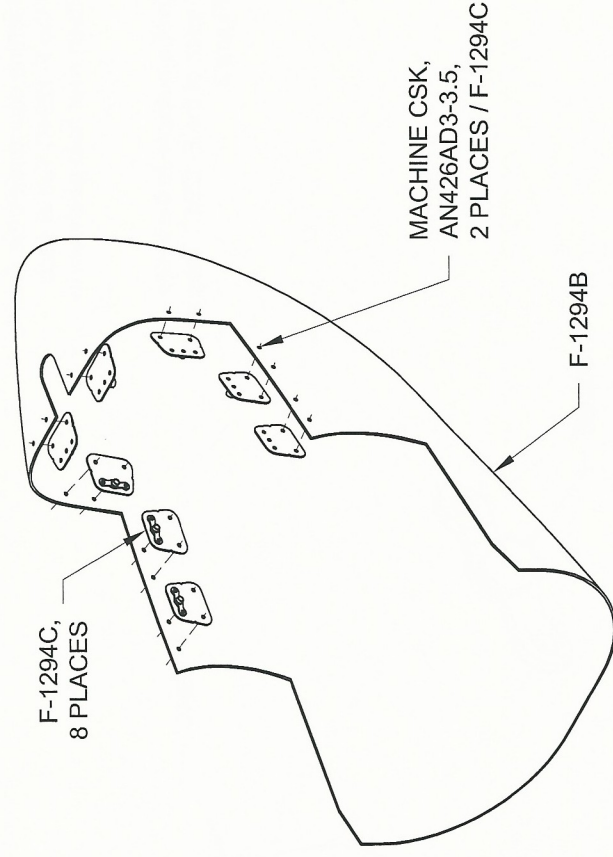

FIGURE 2:
Step 3: Countersink the #40 holes in the F-1294B Lower Tailcone Fairing per call-out in Figure 2.
Step 4: Rivet the F-1294C Tabs to the F-1294B Lower Tailcone Fairing using the rivets called out in Figure 2.
Step 8: Align the forward edge of the F-1294 Assembly to the fairing edge line on each piece of masking tape (Refer to Page 12-05, Figure 2). If/as necessary adjust the alignment to ensure at least 1/8 inch clearance from the bottom edge of the Rudder Assembly. Clamp the Fairing Assembly in position.